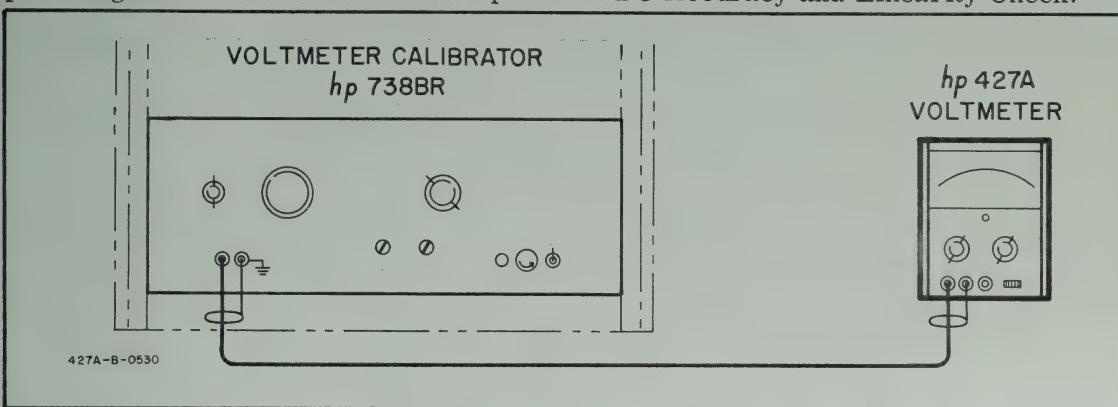

Figure 5-3. DC Accuracy and Linearity Check
Model 738BR Voltmeter Calibrator is accurate to within $\pm 0.1\%$ of the indicated output. Figure 5-3 shows the test setup for the DC Accuracy and Linearity Check.
- c. Connect the voltmeter calibrator and the Model 427A as shown in Figure 5-3.
5-39. A dc voltage standard is needed to calibrate the dc ranges. A2R3, A2R4, and A2R5 are adjusted for full scale inputs on the 0.1, 0.3, and 1 volt ranges respectively. The 3 volt through 1000 volt ranges are calibrated by A2R5 and require no special calibration. Use the test setup in Figure 5-3.